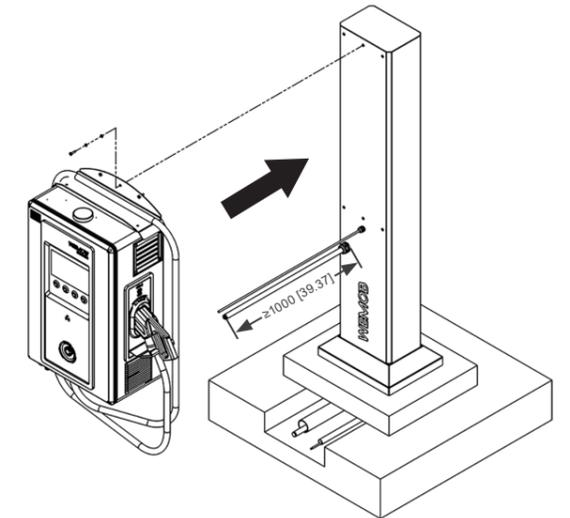

Figure 4.1: Example of mounting the WEMOB-STATION (30/40 kW) on the Totem- mm
After securing the Totem to the concrete base, the charging station must be mounted. This should be done through the six (06) existing mounting points on the Totem using six (06) M6 screws. The recommended tightening torque is 10 Nm to ensure a safe installation for both the charging station and the operator, as shown in Figure 4.1.